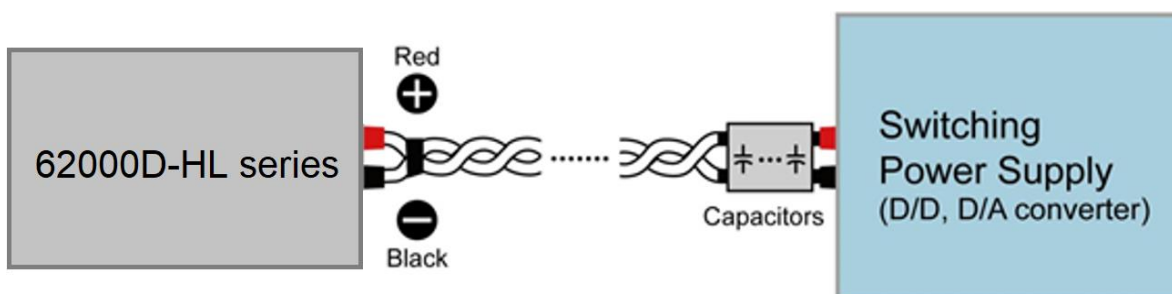

Figure 1-1
1. For applications with fast switchable power loads and cable lengths more than 20cm, it is recommended the cables be twisted and parallel capacitance be added to prevent oscillations, see Figure 1-1.